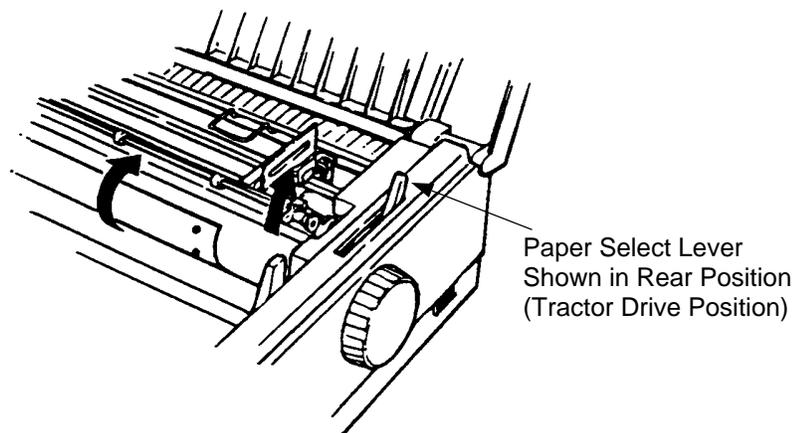
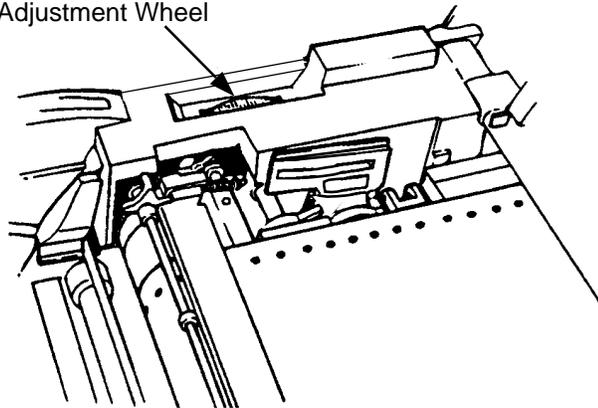

Figure 8-3. Routing of Bottom Feed Paper
Figure 8-6. Paper Tension Adjustment Wheel
5. Ensure that the paper select lever is in the rear (tractor drive) position (marked with an image of fanfold paper on the top cover). See Figure 8-3.
6. With the top cover open, raise the paper bail and guide the paper over the platen toward the rear of the ROP. See Figure 8-3.
9. Open the covers of the main tractors, and install the paper so that the perforations along the edges of the paper fit over the tractor pins. See Figure 8-3. If necessary, turn the tension adjustment wheel to align the tractor pins with the perforations in the paper. See Figure 8-6.